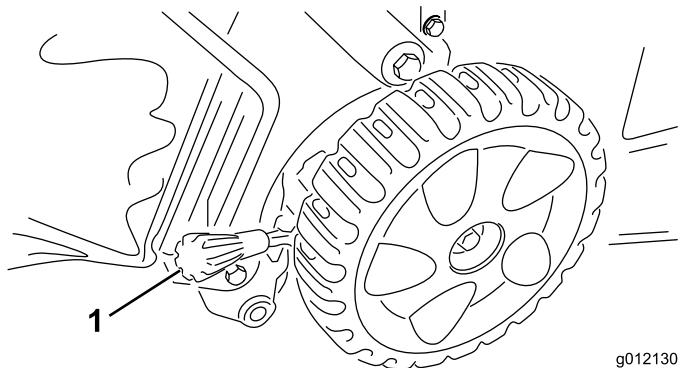

Figure 11
**Note:** To raise the machine, move both cutting-height levers forward; to lower the machine, move them rearward (Figure 11).